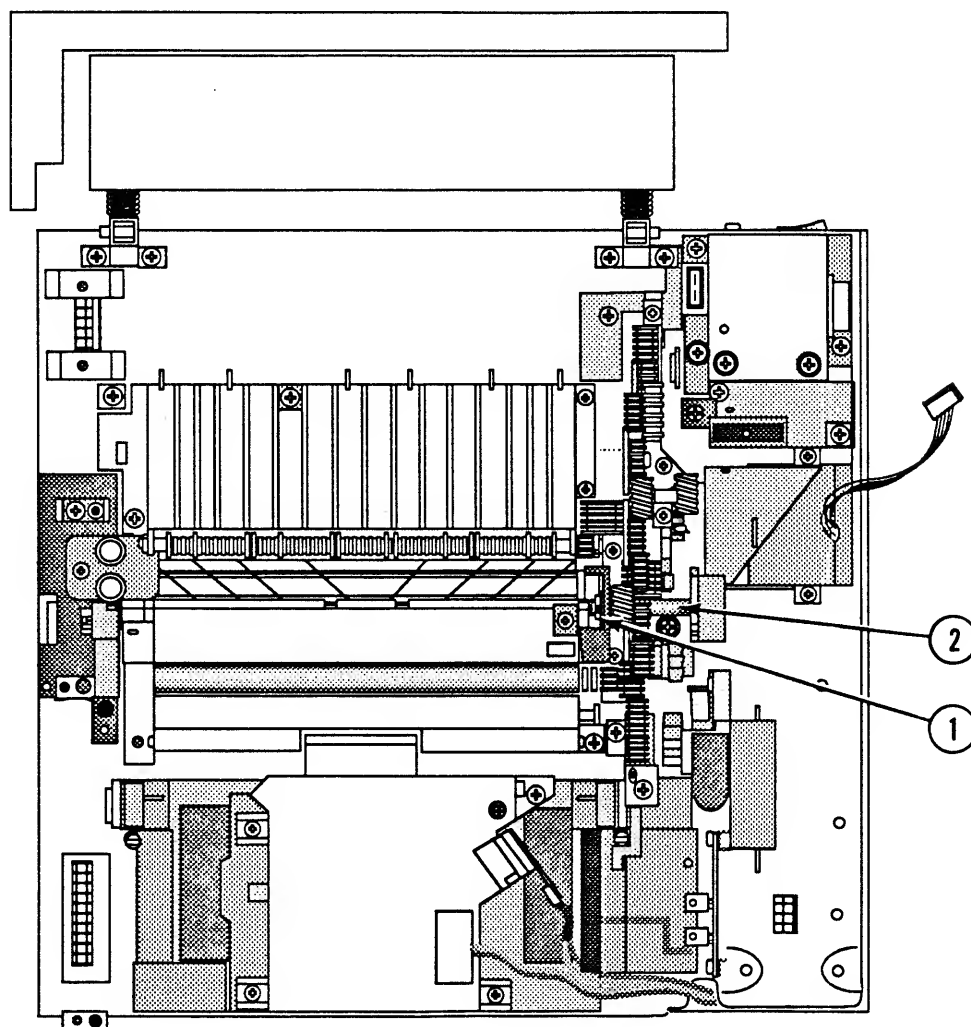

FIGURE 53
2. Using the flatblade screwdriver, remove the C-ring (Figure 53, #1) that keeps the drum drive shaft (Figure 53, #2) in place.